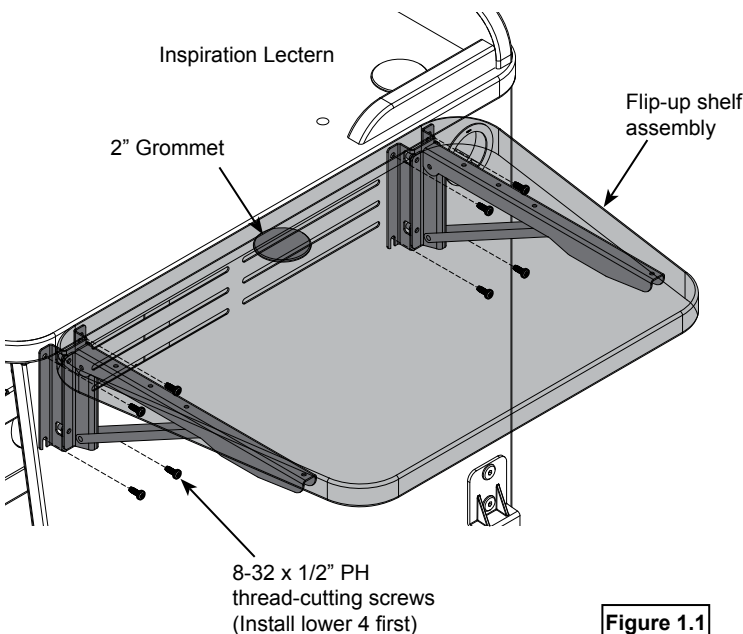

Figure 1.1
2. Extend each shelf bracket to by depressing the release lever and lifting until it locks into the 90° position. **Figure 1.1**.
3. Install the (4) lower 8-32 x 1/2" PH thread-cutting screws into the side panel leaving about 1/4" of threads exposed.
4. Set the shelf assembly onto the (4) lower screws using the notched brackets.
5. Secure the shelf assembly by installing the (4) upper 8-32 x 1/2" PH thread-cutting screws.